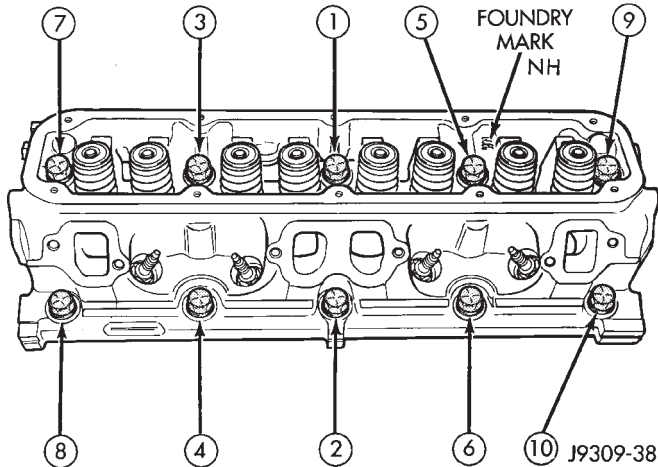

Fig. 19 Cylinder Head Bolt Tightening Sequence
(1) Position the new cylinder head gaskets onto the cylinder block.
(2) Position the cylinder heads onto head gaskets and cylinder block.
(3) Starting at top center, tighten all cylinder head bolts, in sequence, to 68 N·m (50 ft. lbs.) torque (Fig. 19). Repeat procedure, tighten all cylinder head bolts to 143 N·m (105 ft. lbs.) torque. Repeat procedure to confirm that all bolts are at 143 N·m (105 ft. lbs.) torque.